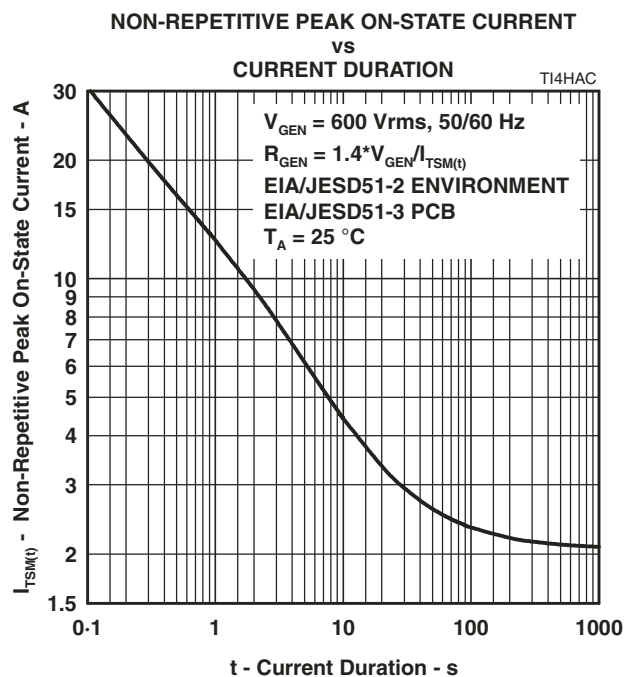

Figure 8.
5. EIA/JESD51-2 environment and EIA/JESD51-3 PCB with standard footprint dimensions connected with 5 A rated printed wiring track widths. See Figure 8 for the current ratings at other durations. Derate current values at $-0.61\text{ }^{\circ}\text{C}$ for ambient temperatures above $25\text{ }^{\circ}\text{C}$.
The protector can withstand currents applied for times not exceeding those shown in Figure 8. Currents that exceed these times must be terminated or reduced to avoid protector failure. Fuses, PTC (Positive Temperature Coefficient) resistors and fusible resistors are overcurrent protection devices which can be used to reduce the current flow. Protective fuses may range from a few hundred milliamperes to one ampere. In some cases, it may be necessary to add some extra series resistance to prevent the fuse opening during impulse testing. The current versus time characteristic of the overcurrent protector must be below the line shown in Figure 8. In some cases, there may be a further time limit imposed by the test standard (e.g. UL 1459 wiring simulator failure).